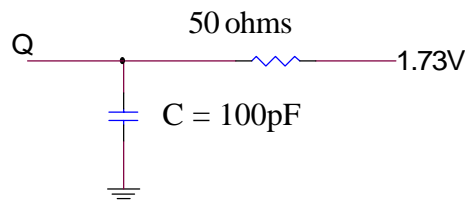

Fig. 1 Output Load Equivalent
Output load	See Figures 1
- Test conditions as specified with the output loading as shown in Fig. 1 unless otherwise noted.
- Output enable (OE) is inactive (HIGH).
- Output enable (OE) is active (LOW).